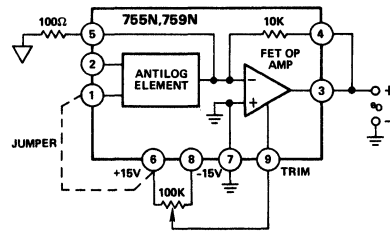

Figure 5. Trimming  $E_{OS}$  in Antilog Mode
**Offset Voltage ( $E_{OS}$ ) Adjustment** — Although offset voltage of the antilog circuit may be balanced by connecting it in the log mode, and using the technique described previously, it may be more advantageous to use the circuit of Figure 5. In this configuration, offset voltage is equal to  $e_{OUT}/100$ . Adjust for the desired null, using the 100k trim pot. After adjusting, turn power off, remove the external 100Ω resistor, and the jumper from Pin 1 to +15V. For 755P, 759P use the same procedure but connect Pin 1 to -15V.